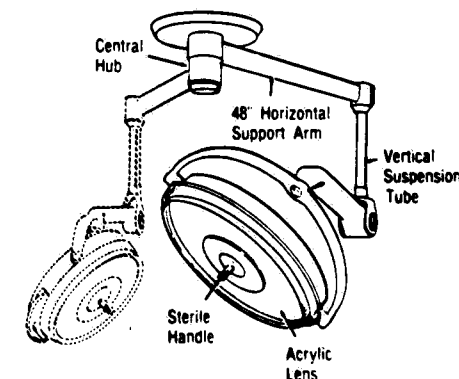

Figure 2-2. MOUNTING ARRANGEMENT.
2.3 LIGHTHEAD MOVEMENT (See Figure 2-2)